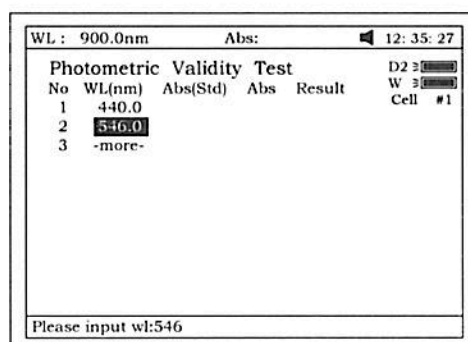

Fig 90
1. Press **【SET λ】** to set the wavelength. Press **【ENTER】** to edit and input wavelength by pressing the numeric keypad (Fig 90). **【ESC/STOP】** to finish inputting and exit.